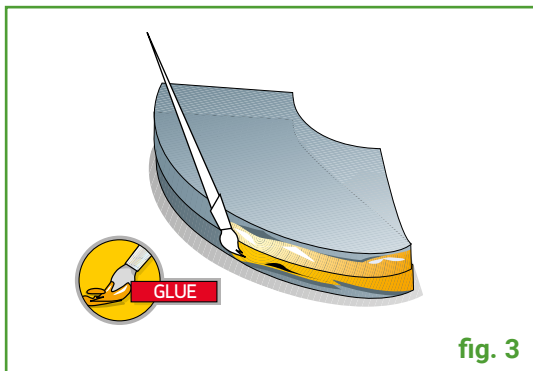

fig. 3
Cut lengthwise along the inner side (**fig 3**)
3) Lay the two sections flat on top of each other and spread MATIBLOCK glue on the edges of the profile with the larger radius. (fig 3)
Cut lengthwise down the section in order to fit the material onto the curved pipe and then glue (**fig 3**).
Assemble the two parts to obtain a T-joint. Cut the material lengthwise in order to allow assembly. (fig 3)
Make a rounded cut at the end of a sleeve to create the correct shape that can fit into the sleeve with the hole (**fig 3**)